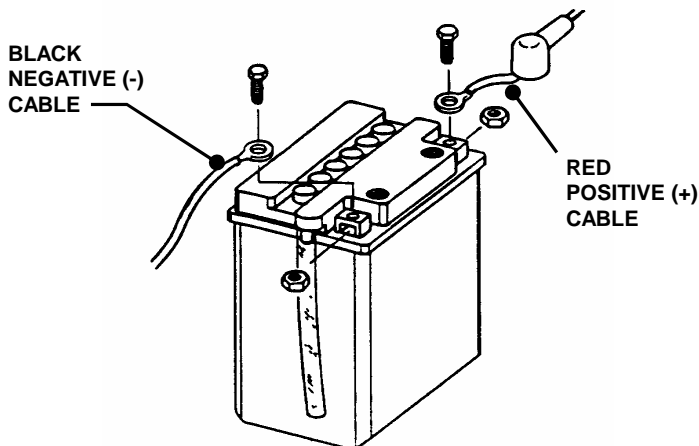

FIGURE 4.15
DO NOT attempt any adjustments, maintenance or service with the engine or blade running. STOP blade. STOP engine. Set brake. Remove key. Remove spark plug wire from spark plug and secure wire away from spark plug. Engine and components can be extremely hot. Avoid burns by allowing engine and components sufficient time to cool. Never attempt to service or charge the battery while it is installed on the YARD CRUISER. Shield the positive terminal with terminal cover located on battery harness. This prevents metal from touching the positive terminal, which could cause sparks. Cables must be connected to battery terminals in the proper position as shown in Figure 4.15.
2. Observe and note cable positions on battery. See Figure 4.15.
2. Connect cables to battery terminals. Connect RED (Positive) cable first. Connect BLACK (Negative) cable. See Figure 4.15.
3. Place the positive (+) terminal insulator over positive terminal and cable. See Figure 4.15.